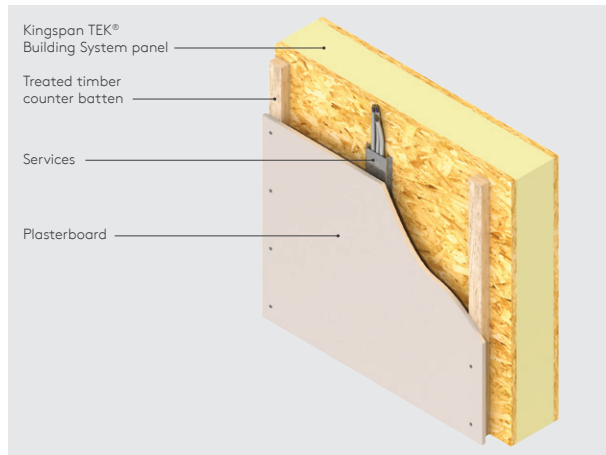

Figure 5
- a single layer of min. 12.5 mm plasterboard on min. 25 mm deep by 50 mm wide vertical timber battens (see Figure 5).